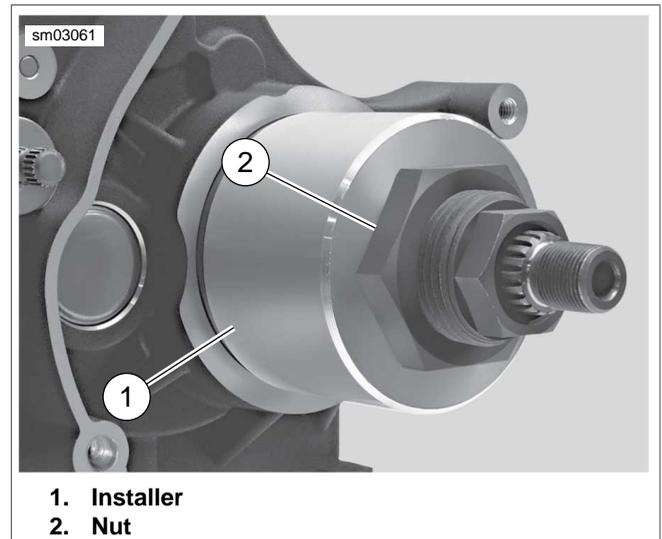
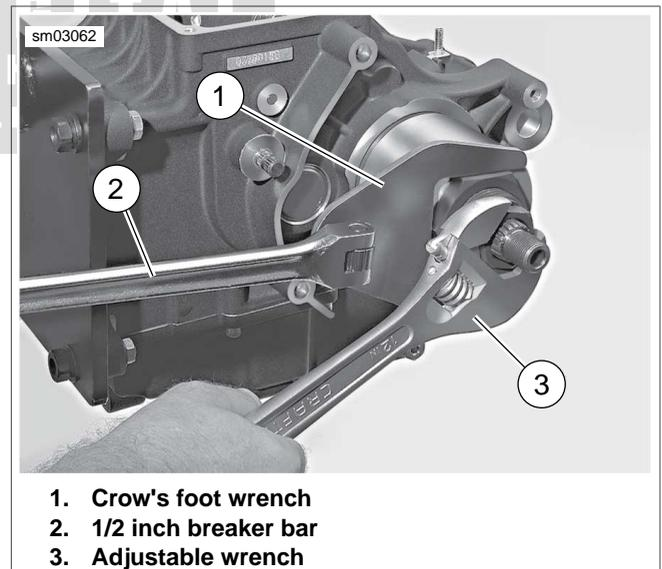

Figure 7-52. Installer and Nut
Figure 7-53. Press Seal Into Crankcase
5. See Figure 7-52. Slide INSTALLER (Part No. HD-47856-1) (1) over adapter until cupped end of installer is flat against seal.
6. Thread NUT (Part No. HD-47856-6) (2) onto end of adapter, until it tightens against installer.
7. See Figure 7-53. Place CROW'S FOOT WRENCH (Part No. HD-47856-7) (1) with 1/2 inch drive breaker bar (2) on large nut. Place an adjustable wrench (3) on flats of hex head cast into end of adapter.